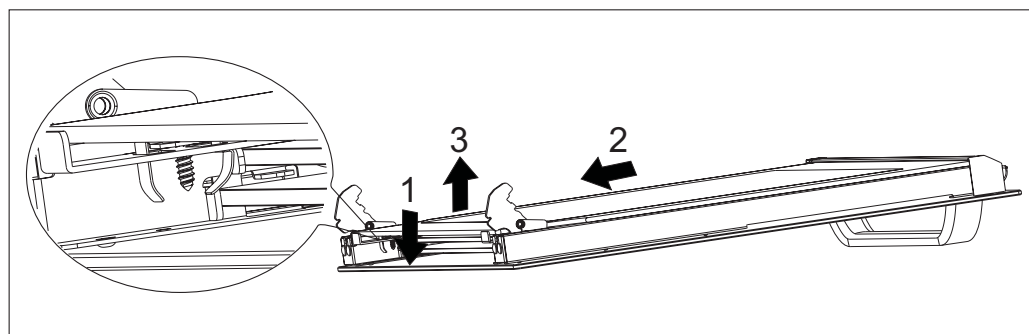
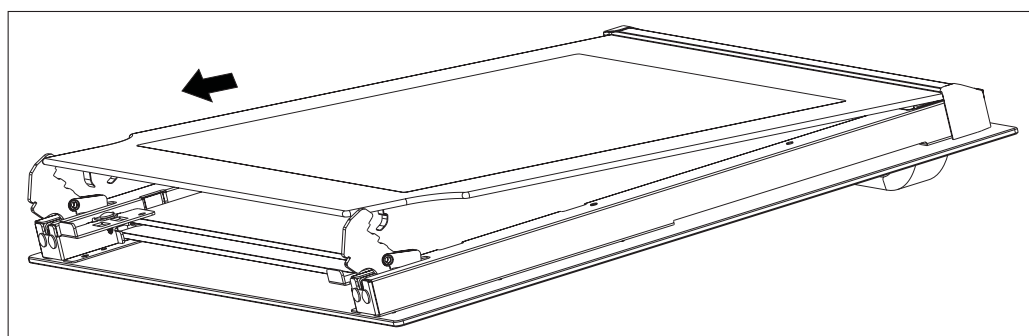

Figure2-1
Figure 2-2
2、 As shown in Figure 2-1, pull the inner glass downward, at the same time keep the force upward, use another hand to press on the outer glass, then the clip spring of inner glass will come out from the socket. Remove the inner glass as shown in figure 2-2 for cleaning. Pay attention to the clip spring while cleaning to avoid the hand being cut.